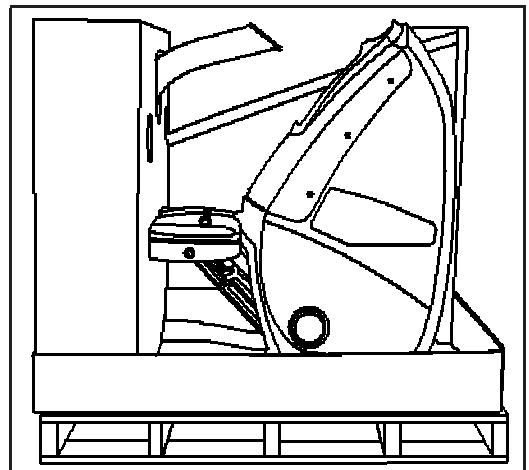

Figure 3
- 2-2** With both hands, carefully lift the handrail and remove from the box (see Figure 3).